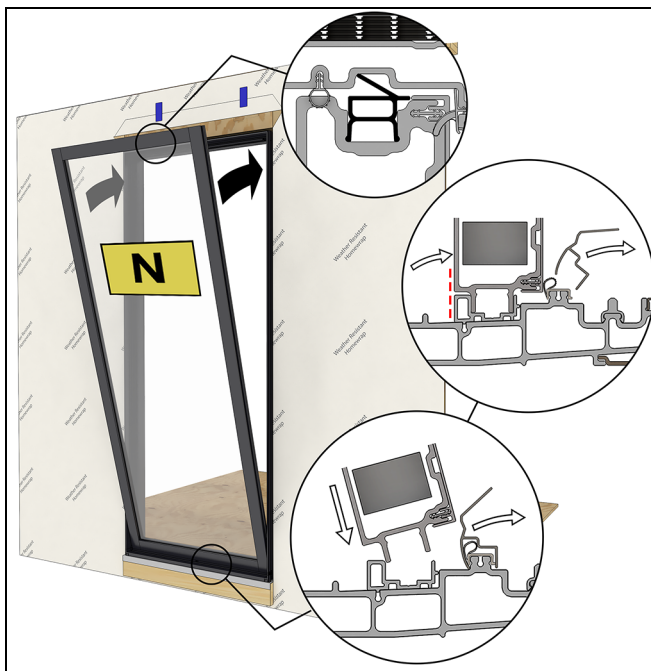

Figure 129
1. From the exterior, set the panel in place on the sill leveling block. Then tip up to engage in the panel retainers on the head jamb and both jambs. See Figure 129.